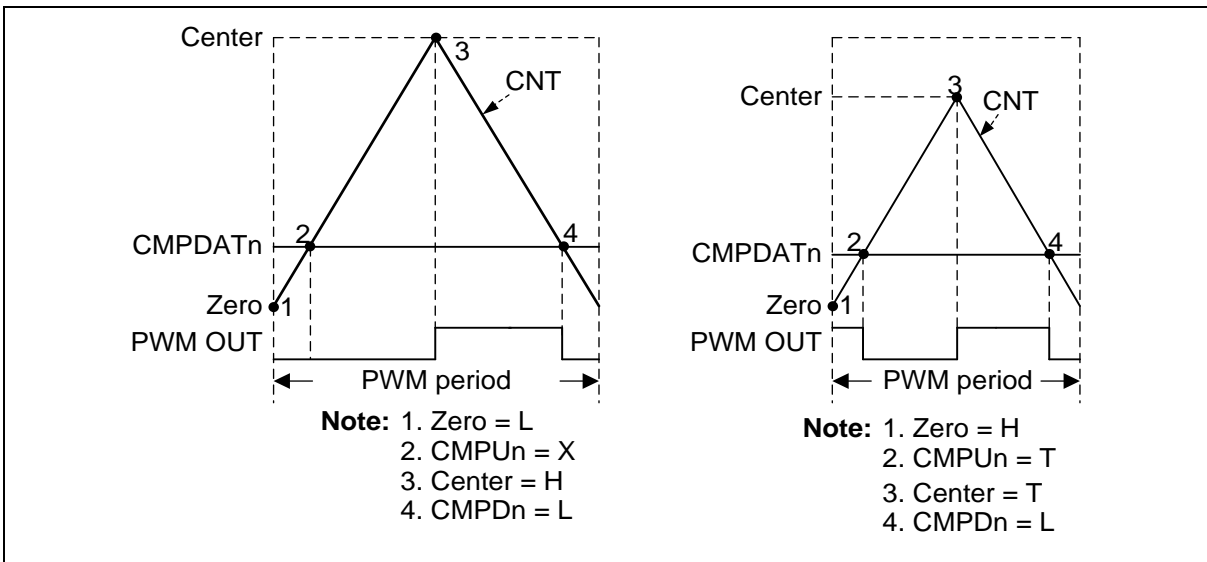

Figure 6.13-14 BPWM Pulse Generation (Left: Asymmetric Pulse, Right: Variety Pulse)
Each event point can decide BPWM waveform to do nothing (X), set Low (L), set High (H) or toggle (T) by setting BPWM_WGCTL0 and BPWM_WGCTL1 registers. Using these points can easily generate asymmetric BPWM pulse or variant waveform as shown in Figure 6.13-14. In the figure, there is a comparator n to generate BPWM pulse, where n denotes channel number 0 to 5. CMPU denotes CNT is equal to CMPDAT when counting up, and CMPD denotes CNT is equal to CMPDAT when counting down.